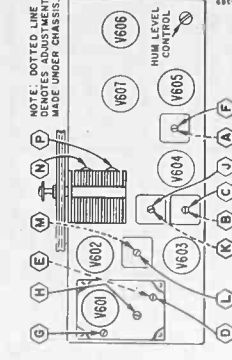

Figure 6. Top View of Tuner Chassis. Tube locations and alignment points shown.
- Tube locations for the tuner and amplifier are shown on figures 6 and 7. Alignment pointers for the tuner are shown on figure 6.
- A Hum Level control is located on the tuner chassis, see figure 6. Hum may be further reduced, if necessary, by adjusting this control.